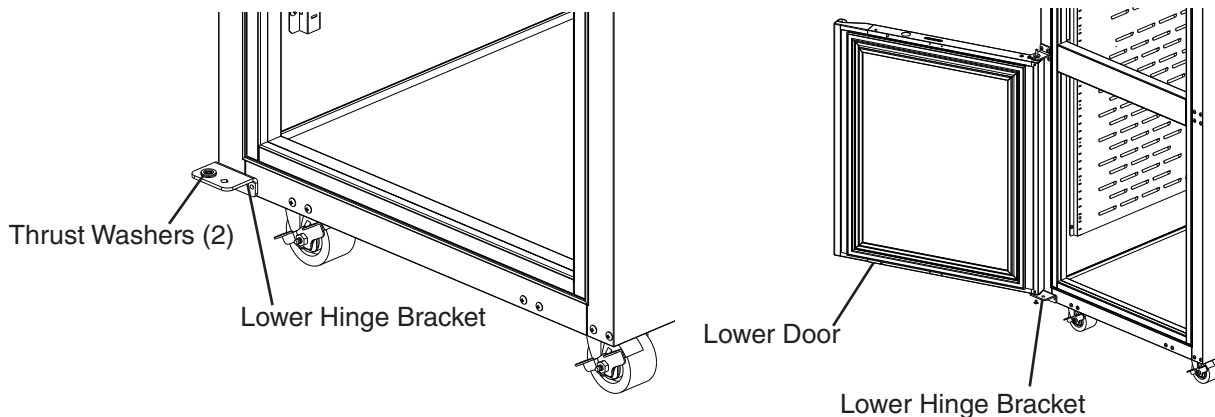

Fig. 22
- 12) Make sure the lower hinge bracket thrust washers (2) are in place, then with the lower door (former rotated upper door) in the maximum open position, place the door onto the lower hinge bracket. See Fig. 22. The spring cartridge shaft should slide into the lower hinge bracket and be flush with the bottom of the lower hinge bracket.